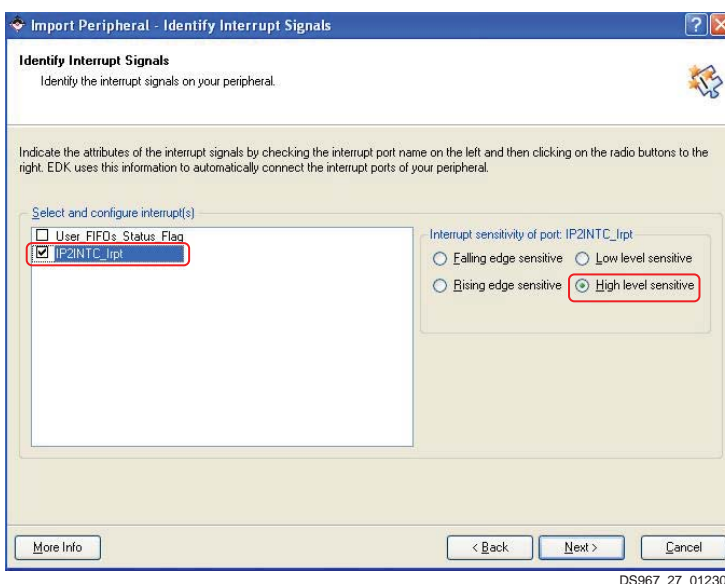

Figure 27: Defining the IP Interrupt Signal and its Sensitivity
10. In the **Identify Interrupt Signals** window, make the selections shown in Figure 27. Select IP2INTC_Irpt in the Select and configure interrupt(s) window. Under Interrupt sensitivity of port: IP2INTC_Irpt, select High level sensitive.